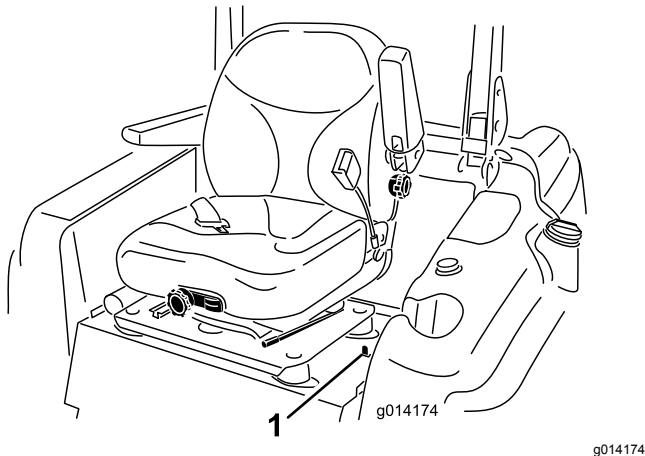

Figure 16
1. Move the seat latch located on the left side of the seat (Figure 16) rearward to unlatch the seat, and pull forward on the top of the seat.